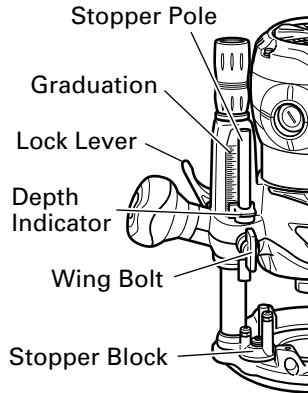

Fig. 4
- Adjusting depth of cut (Fig. 4)